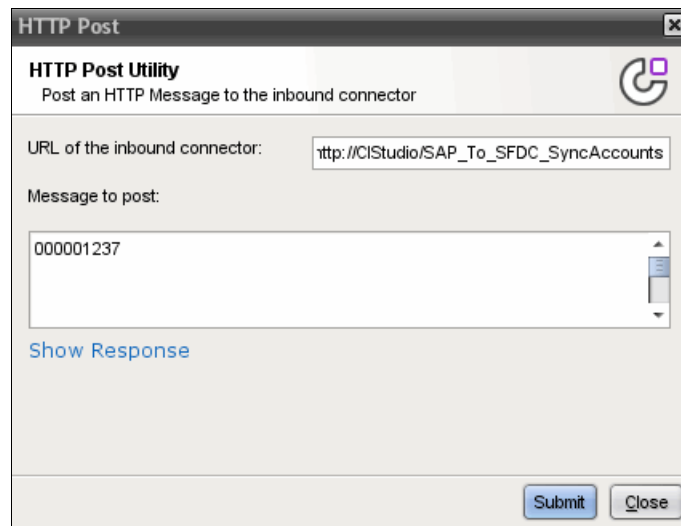

Figure 10-57 Call orchestration with filter 000001237
2. Send an HTTP request using HTTP Post Utility to the orchestration. Specify an appropriate filter (for example 000001237) in the body, as shown in Figure 10-57.